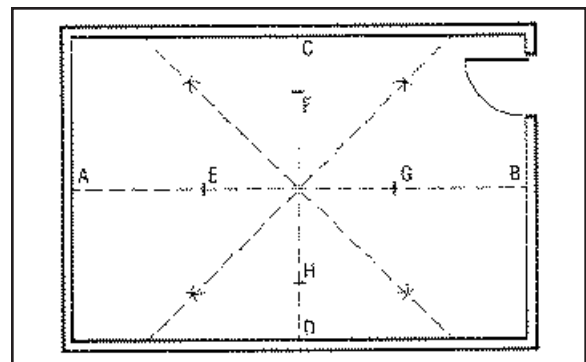

Fig. 3. Diagonal layout.
- Using a slightly larger measurement, swing an arc on both sides of each line from points E, F, G, H. Snap diagonal chalk lines at the point where the marks intersect (Figure 3). If done correctly, the chalk lines will intersect the center point.